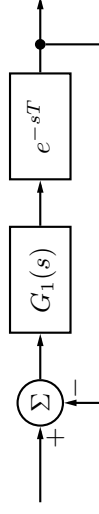

Figure 5.8a
5.8 A block diagram for a control system with time delay is shown in Figure 5.8a. The system  $G_1$  has no poles in the right half plane.